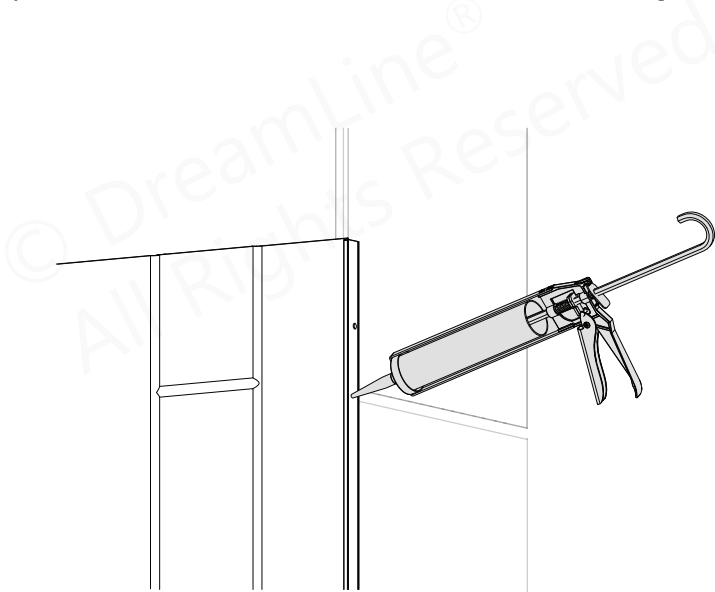

Fig 16
16. Apply a bead of clear silicone from top to bottom inside both of the installed **J-Strips**, including the screw heads. **Fig 16**